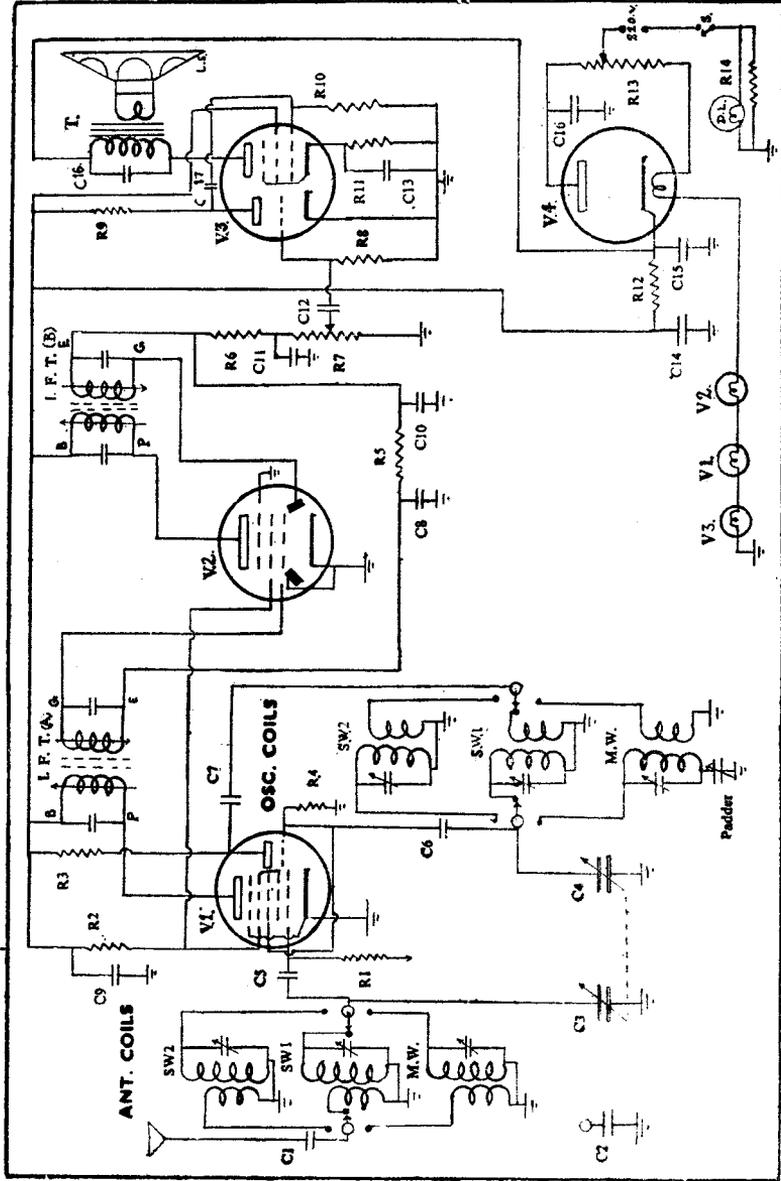

Fig. 48—Circuit Diagram of 4 Valves All World AC/DC Radio
*Radio Practical Circuits*42. *Four valves All World Radio* (Fig. 48)